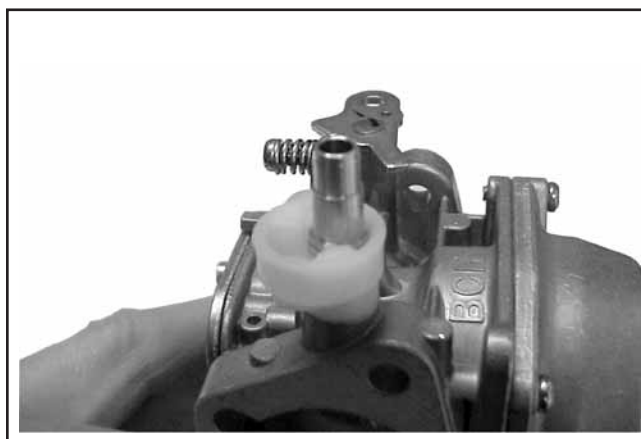

Figure 5-30. Installing Bushing.
8. Turn the old bushing upside down and use it as a driver to carefully press or tap the new bushing into the carburetor body until it bottoms. Check that the choke lever pivots freely without restriction or binding. See Figure 5-30.